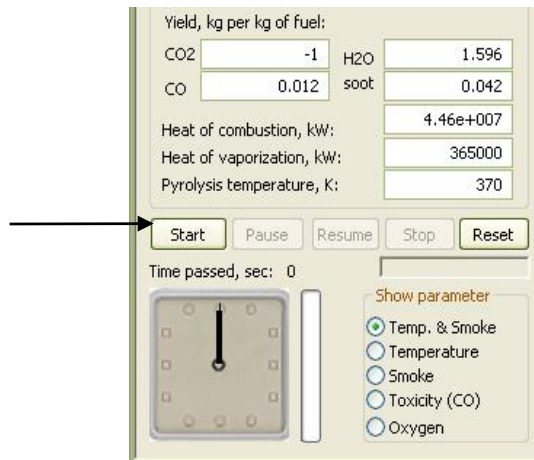

Figure 3-7 Start Button Location
Step 7: In the Fire Simulation popup (Figure 3-7), Click the *Start* button